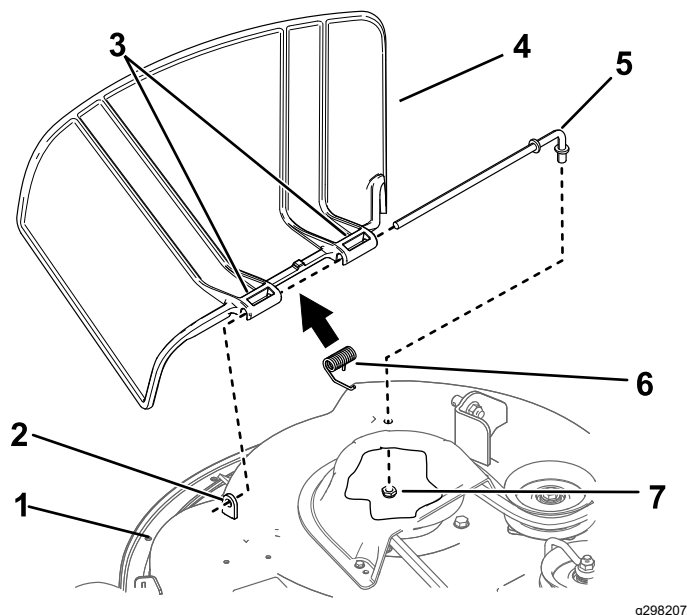

Figure 66
1. Remove the nut (3/8 inch) from the rod under the mower (Figure 66).
7. Slide the rod through the second grass-deflector pivot (Figure 66).
9. Secure the rear end of the rod into the mower with a nut (3/8 inch) as shown in Figure 66.
2. Slide the rod out of the short stand-off, spring, and grass deflector (Figure 66).
4. Install the new grass deflector (Figure 66).